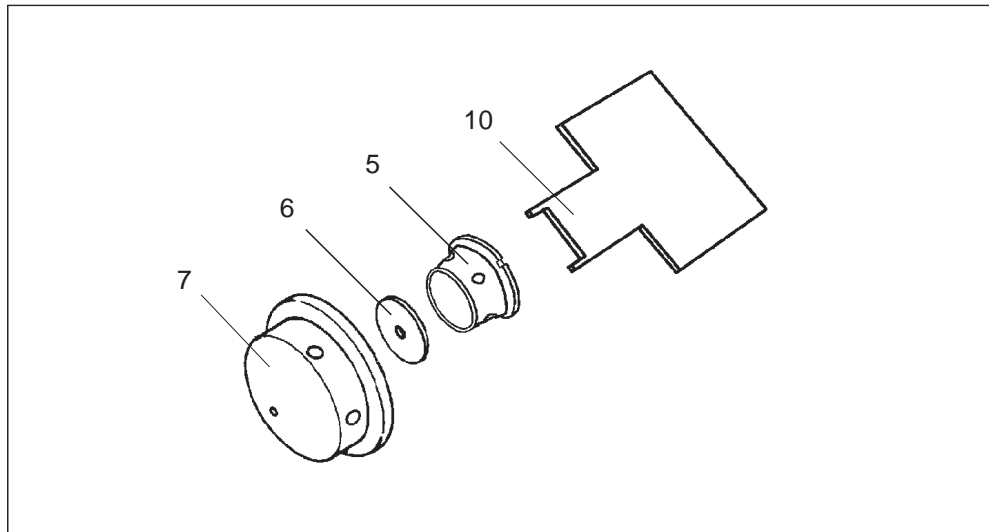

Fig. 6-7: Assembly of filament holder
- Insert the spacer rings (4) and finish the assembling with parts 1 to 3 (Fig. 6-7).